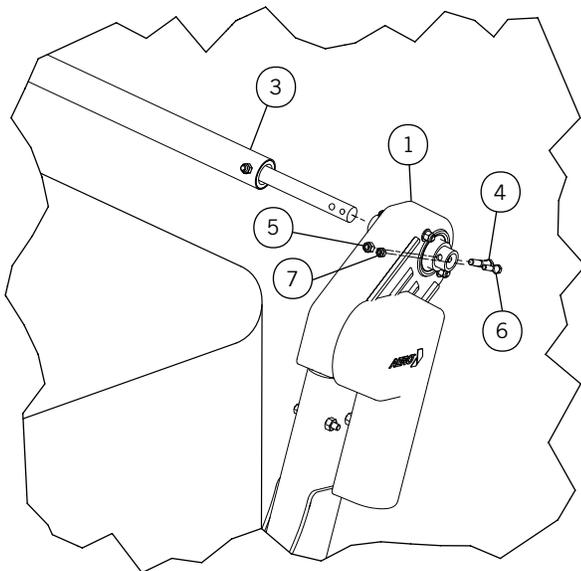

Figure 32-2
- 2) **Figure 32-2 & 32-3.** Insert roll pipe into motor and attach with supplied hardware.